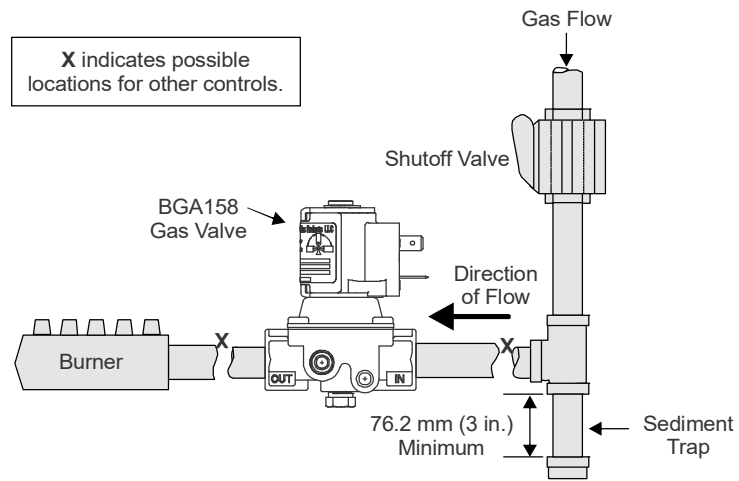

Figure 5: Typical BGA158 Installation
7. Installer must be a trained, experienced, flame safeguard control technician. Threads of the pipe and nipples must be smooth and free of tears and burrs. A sediment trap should also be installed in accordance with the National Fuel Gas Code NFPA 54 (see Figure 5). Mount the valve to the pipework, use a quality rated pipe tape, UL listed seal material rated for gasoline, propane, and other gases. If not available, a quality grade pipe dope, a light amount on the male threads, starting two threads away from the first engaging thread. If pipe dope lodges on the valve seat, it will prevent proper closure. Remove excess compound after mounting the valve to the pipework.